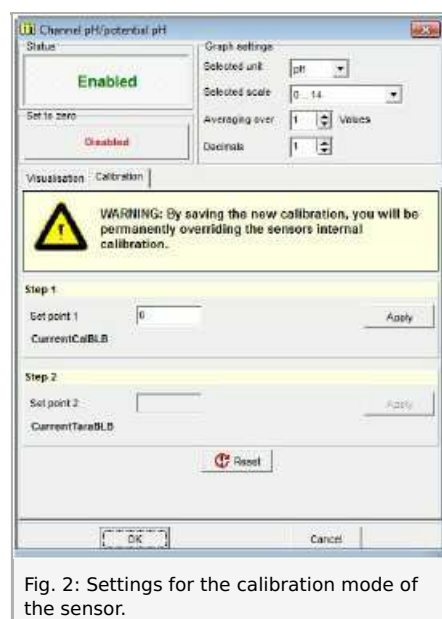

Fig. 2: Settings for the calibration mode of the sensor.
- Enter the pH value for the given solution under the menu point "Calibration" (Step 1, see Fig. 2).